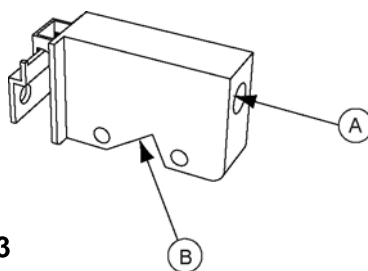

Fig 3
9. If the cabinet is not level or sitting flush against the wall, adjustment can be made to the cabinet's interior hanging mechanisms, which are situated at the top corners inside the cabinet (see Fig 3). Adjustment of screw 'A' will move the cabinet into or away from the wall and adjustment of screw 'B' will enable horizontal levelling of the cabinet.